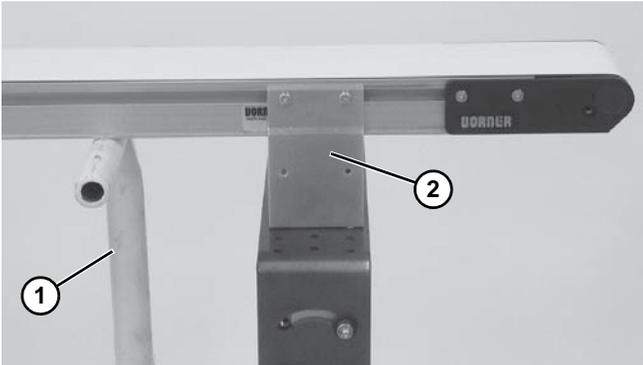

Figure 47
- Place temporary support stands (**Figure 47, item 1**) at both ends of the conveyor.
- Remove mounting brackets (**Figure 47, item 2**) from one side of conveyor. (Reverse steps 3 & 4 of “Mounting Brackets” on page 21.)